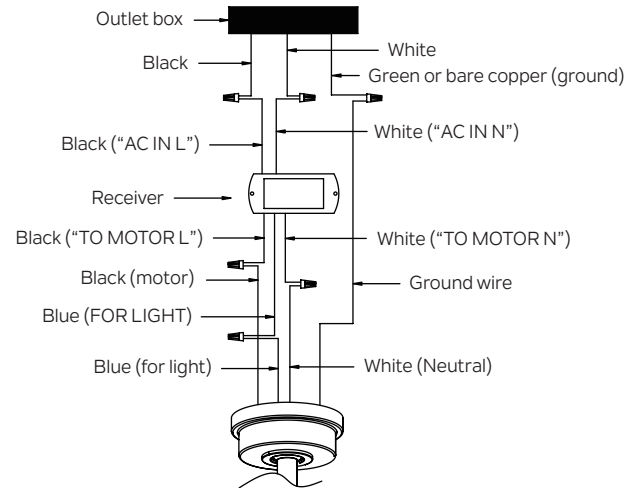

Fig. 17
Step 2. Motor to Receiver Electrical Connections: Connect the BLACK wire from the fan to BLACK wire marked "TO MOTOR L" from the receiver. Connect the WHITE wire from the fan to the WHITE wire marked "TO MOTOR N" from the receiver. Connect the BLUE wire from the fan to the BLUE wire marked "FOR LIGHT" from the receiver. Secure all the wire connections with the plastic wire connectors provided. (Fig. 17)
Step 3. Remote Receiver to Outlet Box Electrical Connections: Connect the BLACK (hot) wire from the ceiling to the BLACK wire marked "AC IN L" from the receiver. Connect the WHITE (Neutral) wire from the ceiling to the WHITE wire marked "AC IN N" from the receiver. Secure all the wire connections with the plastic wire connectors provided.(Fig. 17)
Step 4. If your outlet box has a ground wire (green or bare copper) connect it to the fan ground wires. Otherwise, connect the fan ground wire to the mounting bracket. Secure the wire connection with a plastic nut provided. After connecting the wires, spread them apart so that the green and white wires are on one side of the outlet box and black and blue wires are on the other side. (Fig. 17)